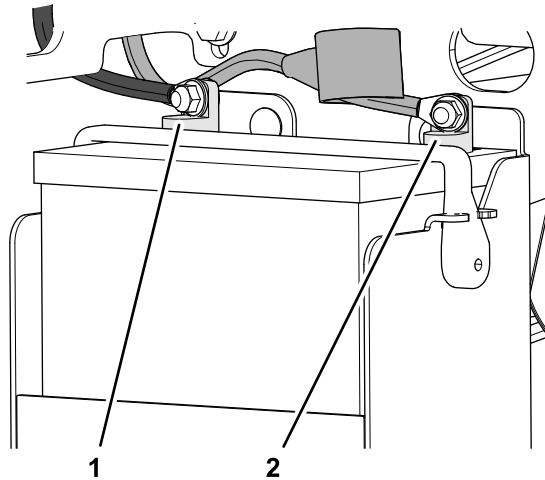

Figure 81
5. If the positive cable is also disconnected, connect the **positive (red) cable** to the positive battery terminal and slip terminal cover over the positive terminal (Figure 81).
7. Carefully slip back the insulator cover of the positive battery cable over the battery terminal (Figure 81).